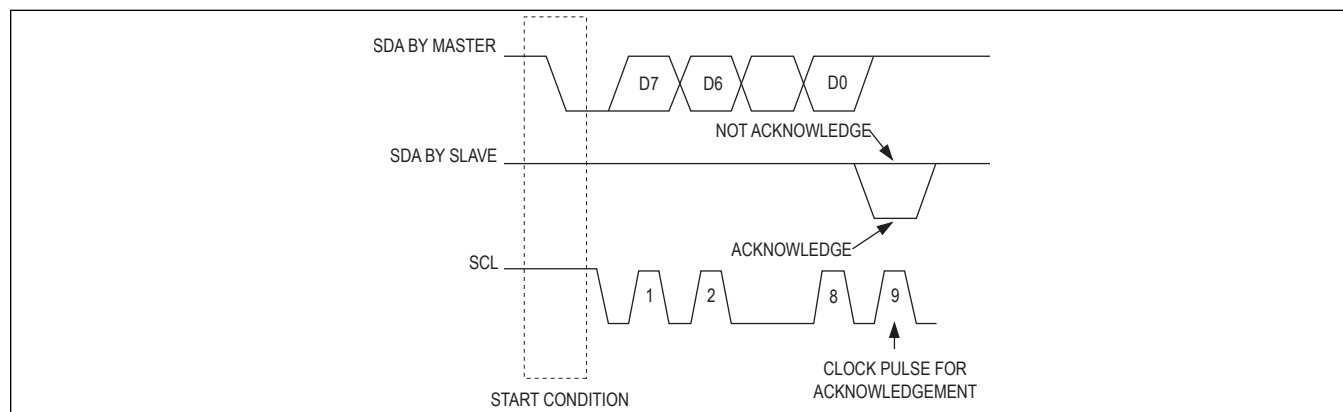

Figure 23. I^2C Acknowledge
The acknowledge bit is used by the recipient to handshake the receipt of each byte of data (Figure 23). After data transfer, the master generates the acknowledge clock pulse and the recipient pulls down the SDA line during this acknowledge clock pulse so that the SDA line stays low during the high duration of the clock pulse. When the master transmits the data to the IC, it releases the SDA line and the IC takes the control of the SDA line and generates the acknowledge bit. When SDA remains high during this ninth clock pulse, this is defined as the not acknowledge signal. The master can then generate either a STOP (P) condition to abort the transfer, or a REPEATED START (Sr) condition to start a new transfer.